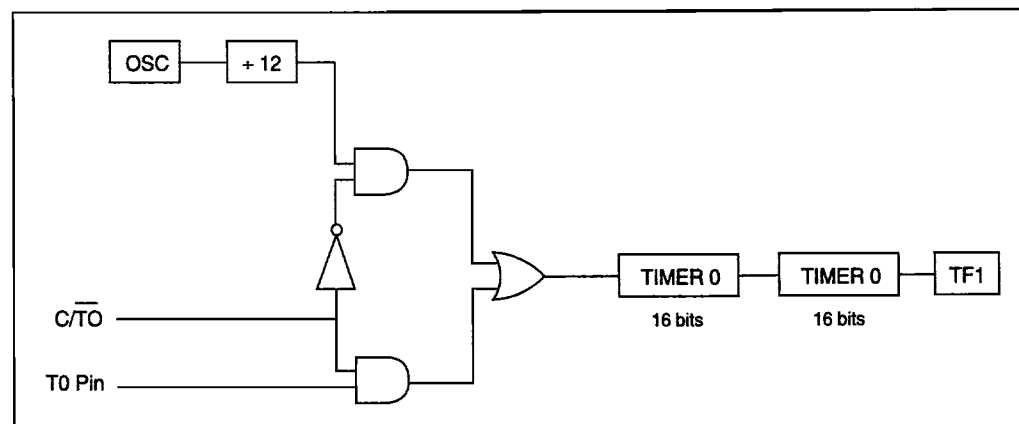

Figure 11 : 32 Bit Timer/counter.
- T32 = 1 enables access to this mode. As show in figure 11, this 32 bit mode consists in cascading TIMER 0 for the LSBs and TIMER 1 for the MSBs.